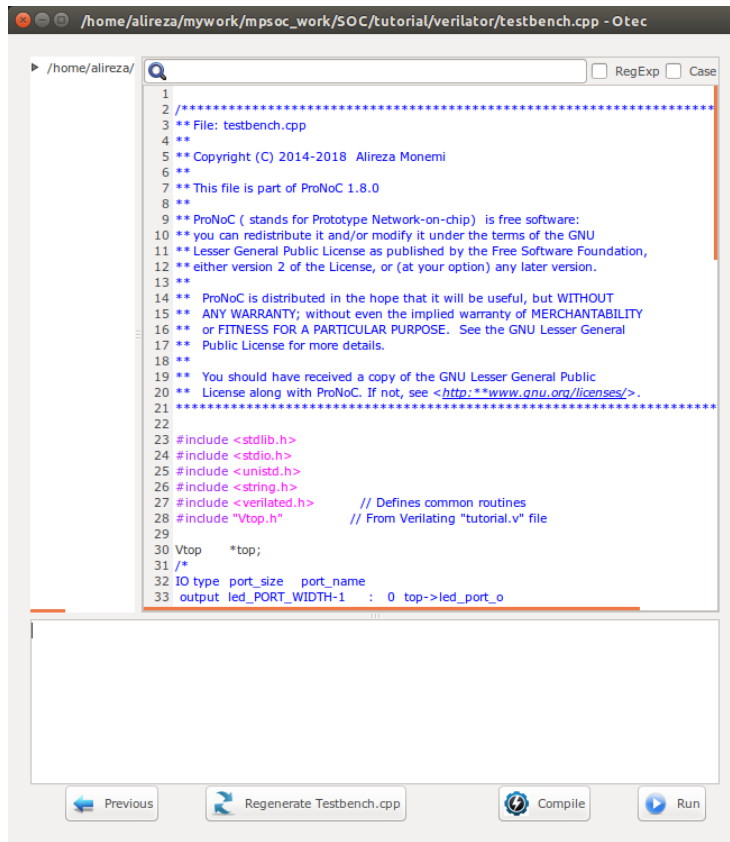

Figure 5.19: Verilator model testbench edit snapshot.
4. Now you must have the `testbench.c` opened in software code edit window as shown in Figure 5.19. This is the minimum testbench file for running the generated SoC. It has the SoC instance module connected to the clock and reset signals. You can edit this file as you wish.